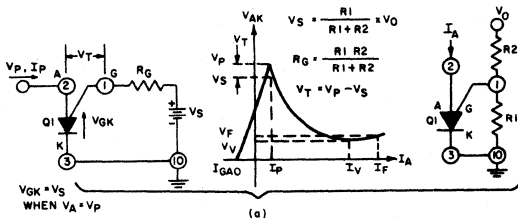

Fig. 22 - General anode characteristics for Q1 (PUT).
* V_T = V_p - V_s (Fig. 22)
The programmable unijunction transistor is essentially an anode-gate SCR. The volt-ampere characteristic of the device is shown in Fig. 22. When an equivalent Thevenin source (V_S , R_G), as shown in Fig. 22, is applied to the gate terminal the device will be "off" if the anode-voltage is negative with respect to the gate voltage. Under this condition, any current flow is exclusively leakage current. When the anode voltage becomes more positive than the gate voltage by an increment equal to the threshold voltage ($V_T = 0.4 \text{ V typ.}$), the device can turn "on" only if the current available at the anode terminal is greater than the specified peak-point current. The PUT will then switch through its negative-resistance region to the "on" state (low anode-to-gate voltage). It should be noted